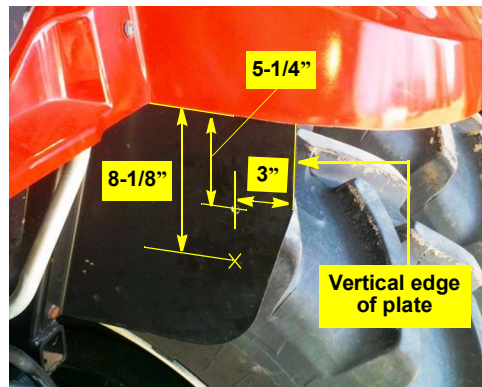

Figure 2a: Steering block mounting location
You will mount the hydraulic steering block **HA** with its solenoids upward on the inside face of the right rear fender plate (Figure 2a).
- Drill a $\frac{3}{8}$ " hole $5\text{-}\frac{1}{4}$ " down from the bottom edge of the fender arch and 3 " in from the rear edge of the fender plate (measured at the bottom of the vertical edge of the plate - Figure 2a). Use this hole for **HA**'s top mounting bolt (hardware **HD**).
- Using **HA** as template, mark the second hole vertically downward. Drill a second $\frac{3}{8}$ " hole. (Or drill the second hole $8\text{-}\frac{1}{8}$ " from the bottom edge of the fender vertically down from the first hole. The holes will be $2\text{-}\frac{7}{8}$ " apart - Figure 2a).
- a. Using hardware **WM**, join brackets **WK** and **WL** (Figure 2a inset).
Using the machine's existing fender bracket bolts, (or hardware **WN**), install **WK/WL** against the fender bracket (or directly against the axle). Slide the bracket combination in from the right (as viewed) so that the offset in the bracket is upward and forward (Figure 2a and inset).
Figure 2a with inset: WAS mounting bracket(s) location and, inset, joined and installed